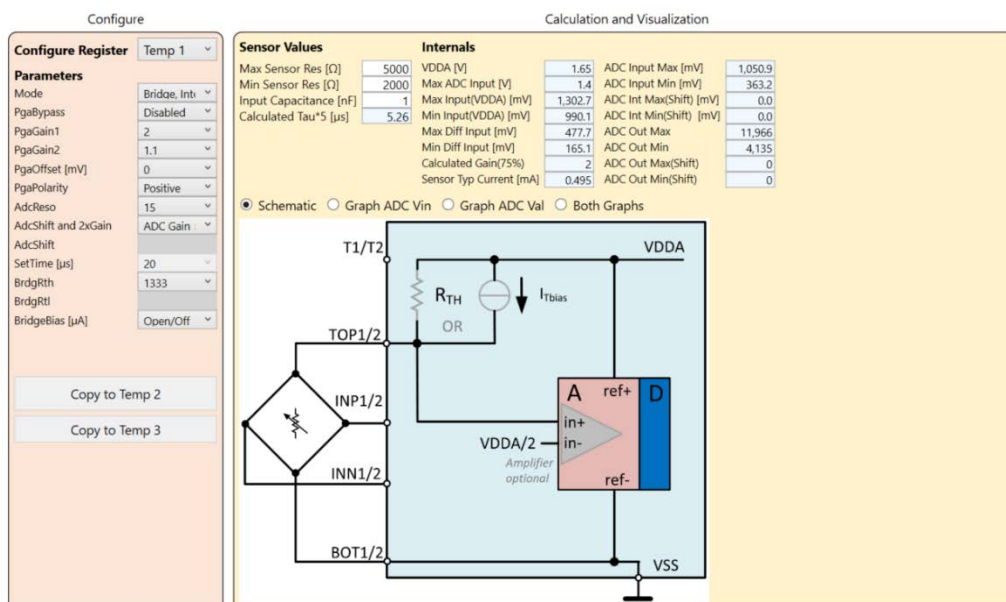

Figure 57. Mode Bridge Internal Bias
- Bridge, Internal Bias: The resistive bridge (used for the main measurement) is supplied by an internal voltage source or by an internal configurable current source tied to VDDA (References item 3) (Figure 57).